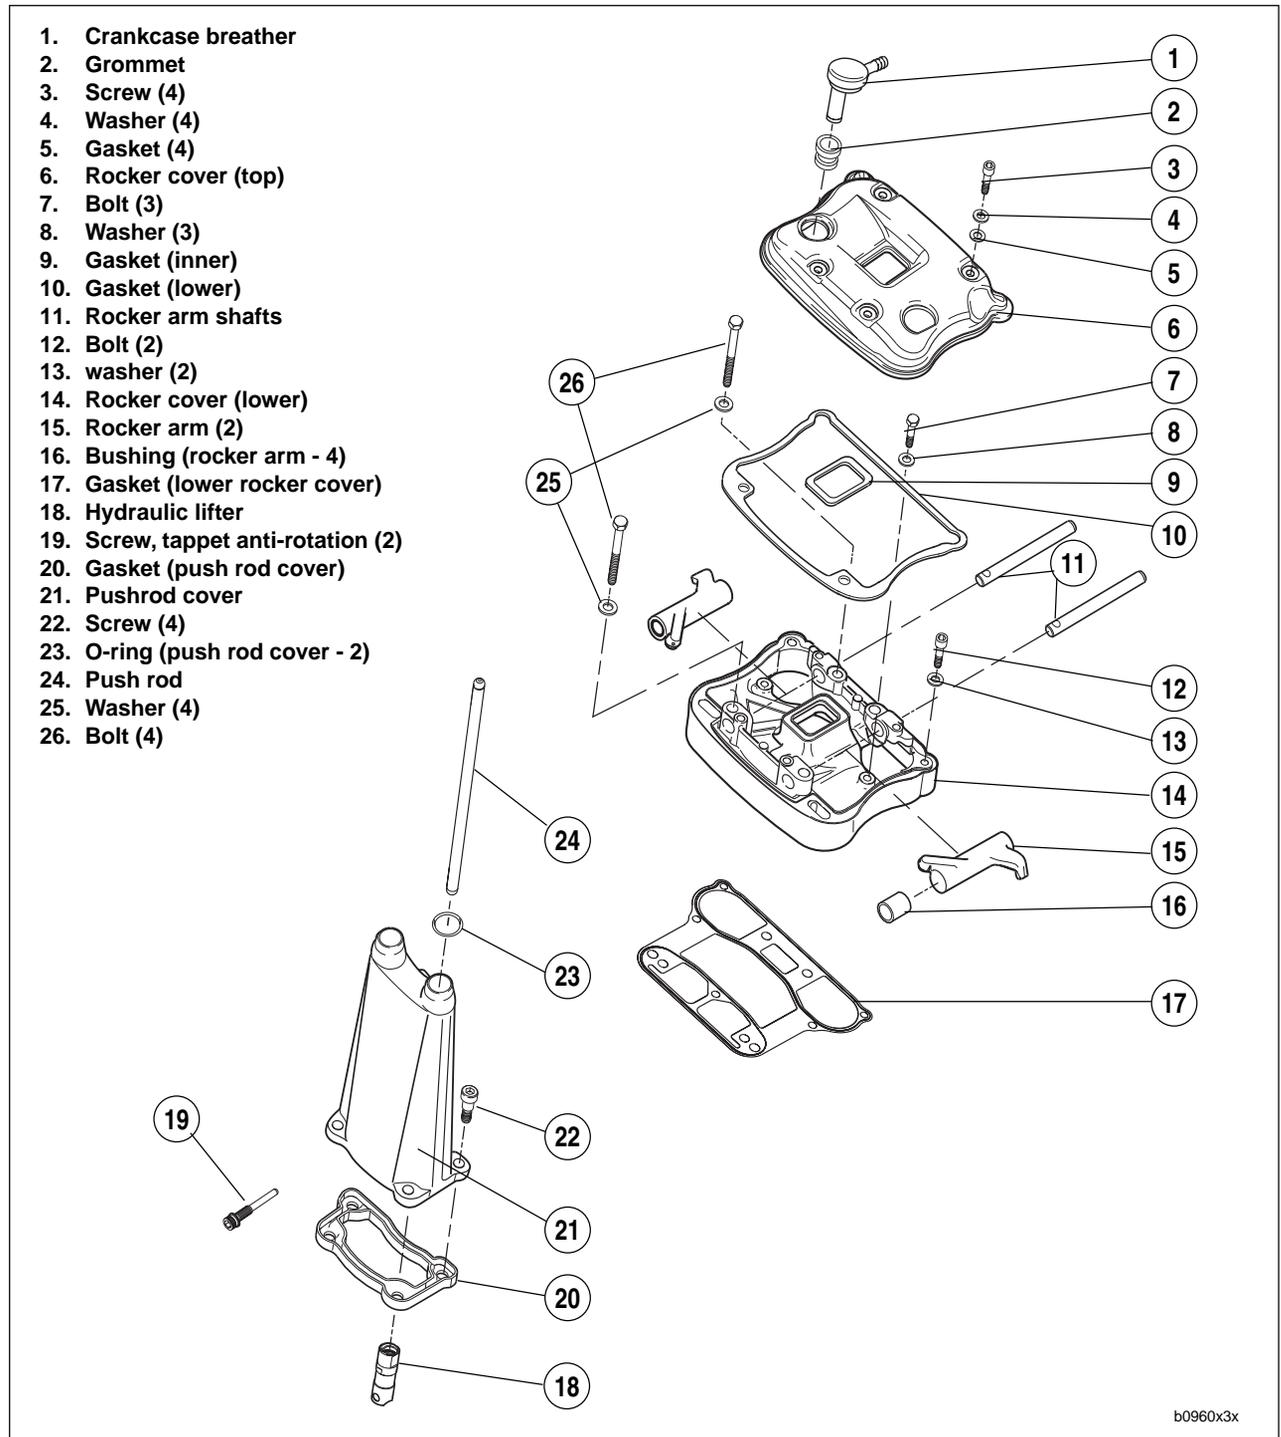

Figure 3-60. Rocker Arm and Pushrod Cover Assemblies
2. See Figure 3-60. Remove screws with washers and fiber cover seals. Discard fiber seals.
- a. Remove two screws and washers (1).
- b. Remove three bolts and washers (2).
- c. Loosen the four rocker arm fasteners (3) in 1/4-1/2 turn increments using a cross pattern in order to relieve valve spring pressure on the lower rocker box.
7. See Figure 3-60. Remove lower rocker cover.
13. See Figure 3-60. Remove push rod cover, gasket and valve tappets.